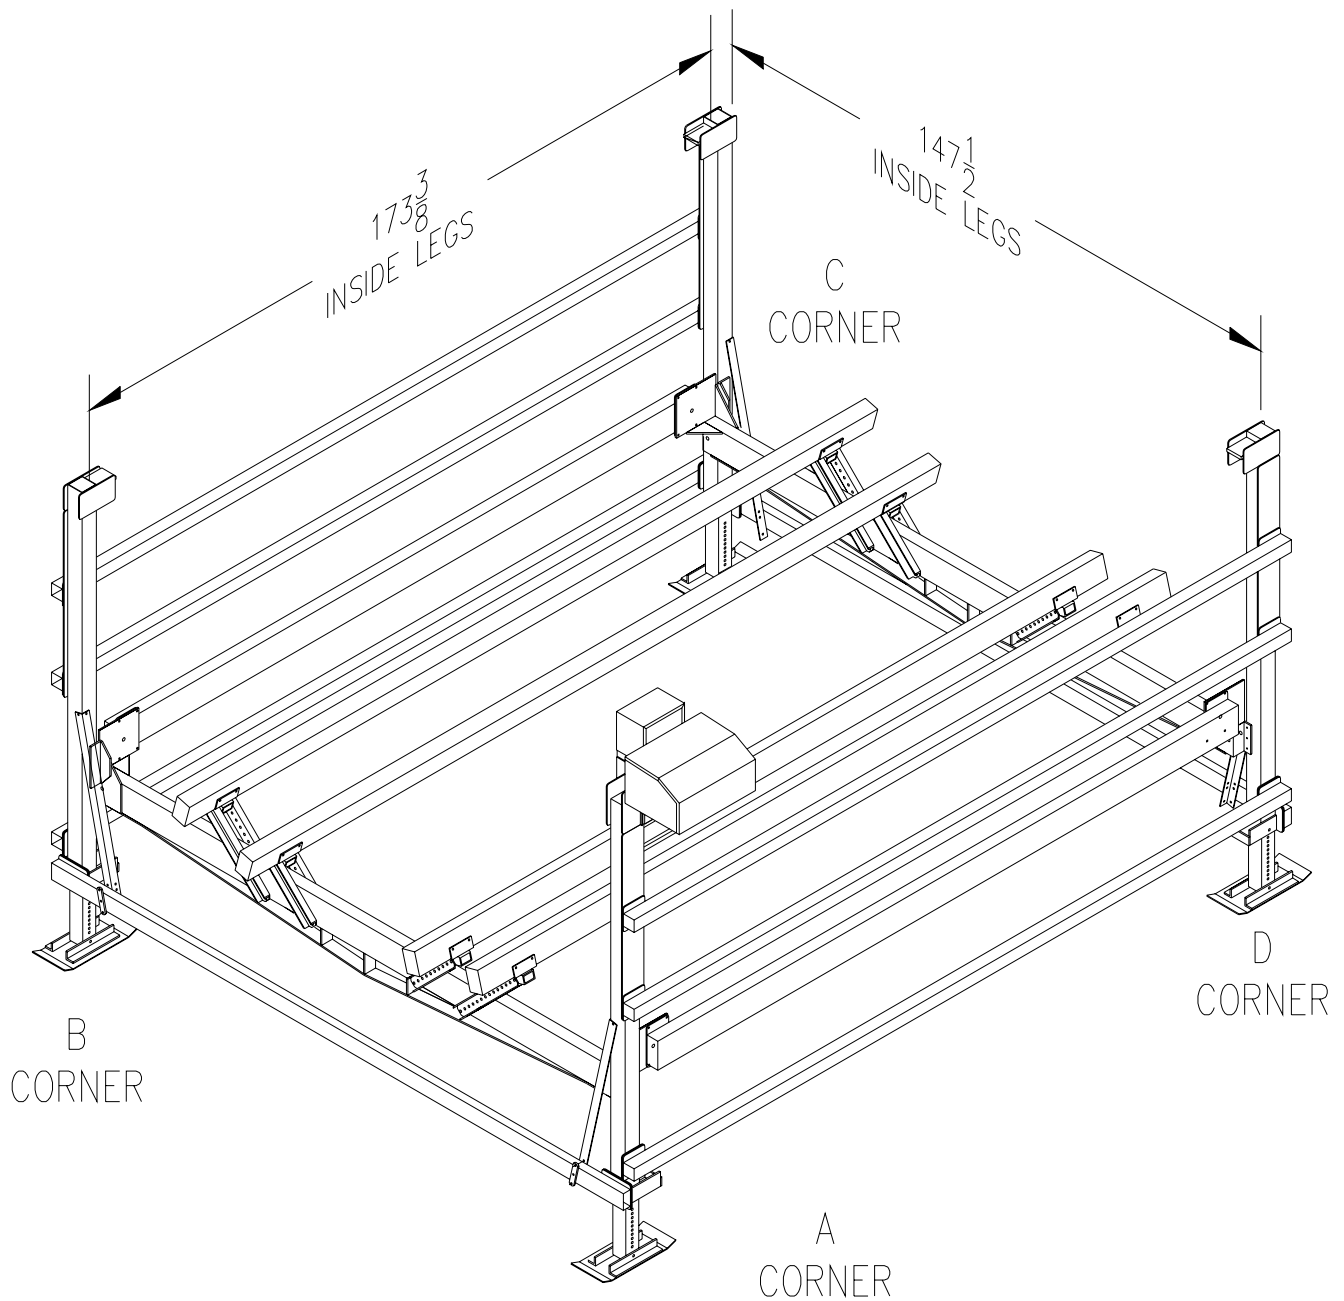

Figure 3-6.
7. Insure the frame is square and that it satisfies the dimensions shown in Figure 3-6. About 1/4 inch difference between the upper and lower measurements is permitted.